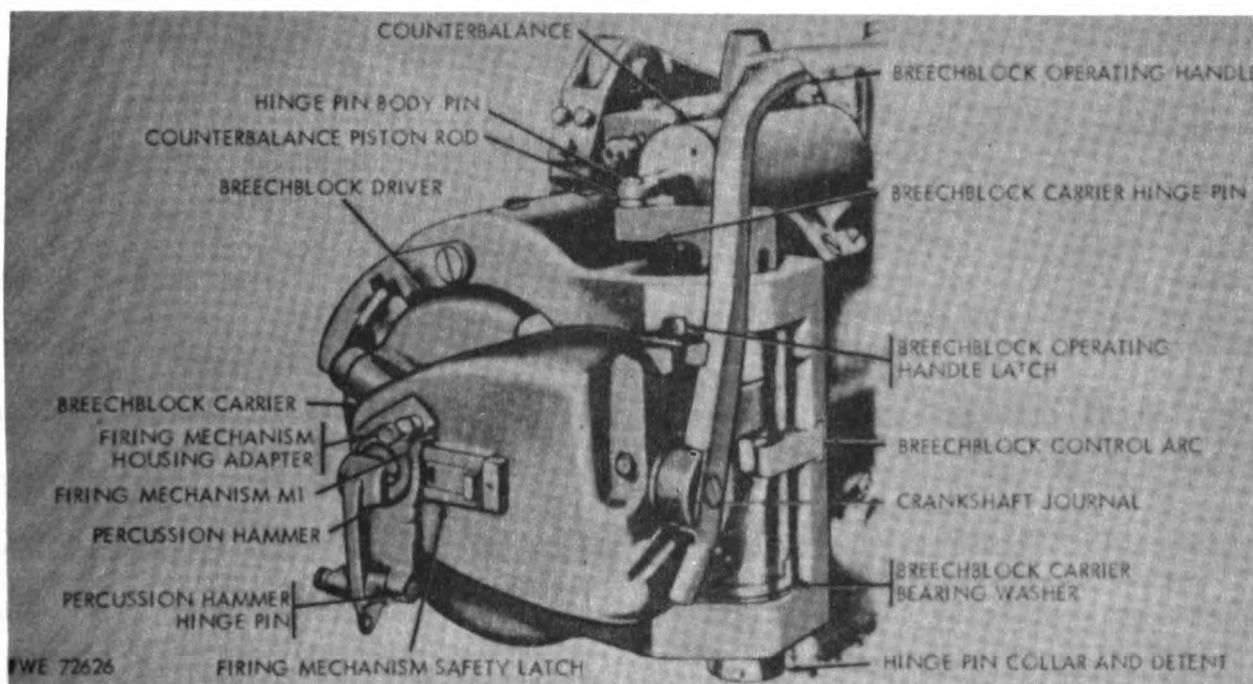

Figure 100. Breech mechanism—right rear view.
**b. Breechblock Carrier Hinge Pin.** The breechblock carrier hinge pin (fig. 100) hinges the breechblock carrier and attached parts to the breech ring. The hinge pin body pin, extending from the top of the hinge pin, is provided for the attachment of the counterbalance piston rod. The hinge pin is retained in the breech ring by the hinge pin collar and detent. The breechblock carrier bearing washer provides supporting bearing surface for the hinge pin and breechblock carrier.
**c. Breechblock Operating Handle Latch.** The breechblock operating handle latch (fig. 100) latches the breechblock operating handle in fully raised position, thereby locking the operating handle in closed position. The latch is spring-
**e. Percussion Mechanism.** The percussion mechanism consists of the percussion hammer (fig. 100), the percussion hammer hinge pin, and the percussion hammer locking pin knob (fig. 23). These are mounted on the lower arm of the breechblock carrier adapter. The lower portion of the percussion hammer is drilled for the attachment of the lanyard (fig. 87). The percussion hammer will not strike the firing pin in the firing mechanism unless the firing mechanism has been screwed fully into its housing (para 48b).
*f. Firing Mechanism Safety Latch.* The firing mechanism safety latch (fig. 100) prevents the breech from being opened before the firing mechanism M1 has been removed. It also prevents the firing mechanism from being seated before the breechblock has been returned to the closed and locked position.
mits the breechblock to be locked or unlocked by being rotated approximately one-tenth of a revolution. The breechblock has a central stepped bore from front to rear. The forward portion of this bore fits the obturator spindle. The central portion of the bore contains the breechblock bearing bushing, which forms the bearing surface on which the breechblock is carried on the hub of the breechblock carrier (figs. 100 and 101). The rear portion of the bore contains three wide splines which mate with three similar splines of the breechblock driver. They permit the breechblock to move backward and forward on the driver as the breechblock is being unlocked and locked, but constrain the breechlock to turn with the driver.
*i. Breechblock Carrier.* The breechblock carrier (fig. 103) supports the breechblock and its actuating parts. The right end of the carrier is hinged on the breechblock carrier hinge pin (fig. 100). A cylindrical hub extends from the front of the carrier. The front surface of this hub provides a bearing surface for the breechblock while the surface forms a bearing surface for the breechblock driver. The forward end of the rear section is threaded to receive the breechblock driver retaining ring. A bore through the hub of the breechblock carrier receives the obturator spindle sleeve, obturator spindle (fig. 101), gas-check pad compressing spring, firing mechanism housing
and forth in its splined bearing on the breechblock driver. The crankshaft journal (fig. 100) supports the breechblock operating handle crankshaft and fits the bore in the right side of the carrier. One end is slotted at right angles to the crankshaft to receive the breech operating handle. The breechblock driver rotates on the hub of the breechblock carrier and is retained on the hub by the breechblock driver retaining ring and screw. The forward portion of the driver extends into the recess in the rear of the breechblock and is splined to the breechblock. The breechblock rotating roller is attached to the breechblock driver by the breechblock rotating roller pin. The breechblock control arc is mounted in a slot in